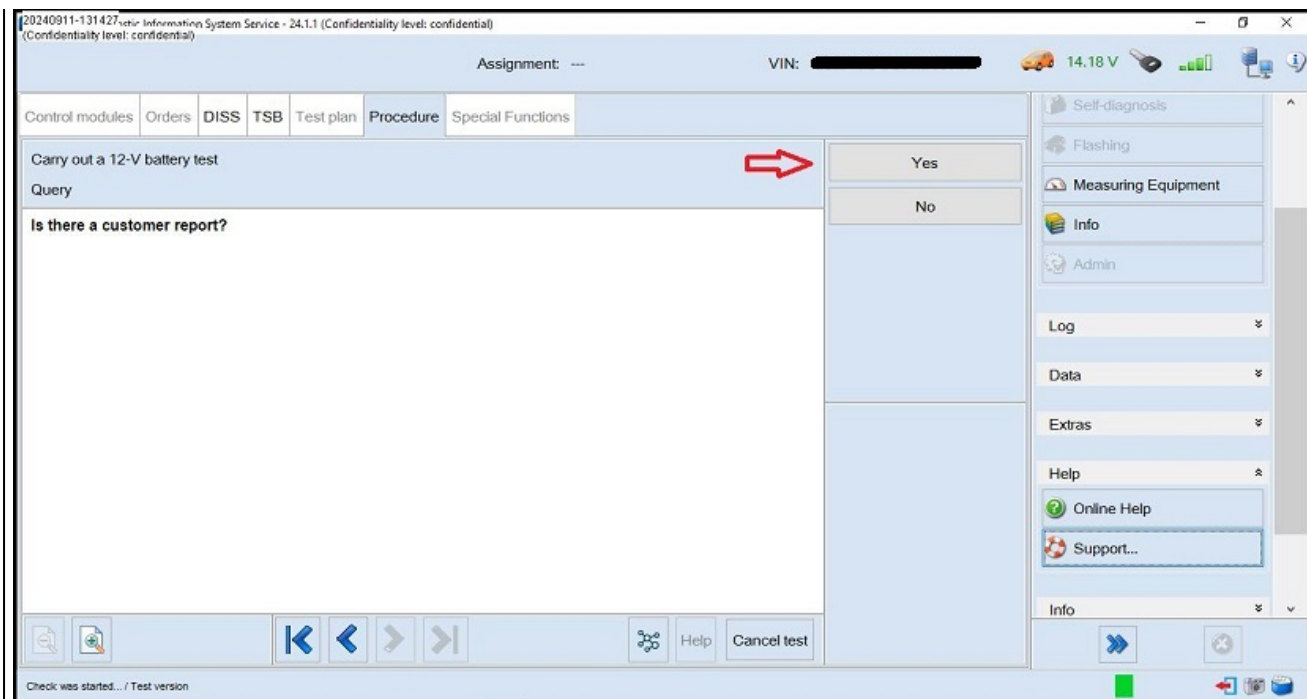

Figure 2.
2. Is this a customer report, select “Yes” (Figure 2).